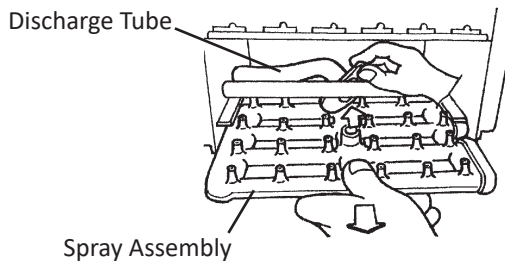

Fig. 44
- 7) Disconnect the discharge tube from the spray assembly, then slide out the spray assembly. See Fig. 44.